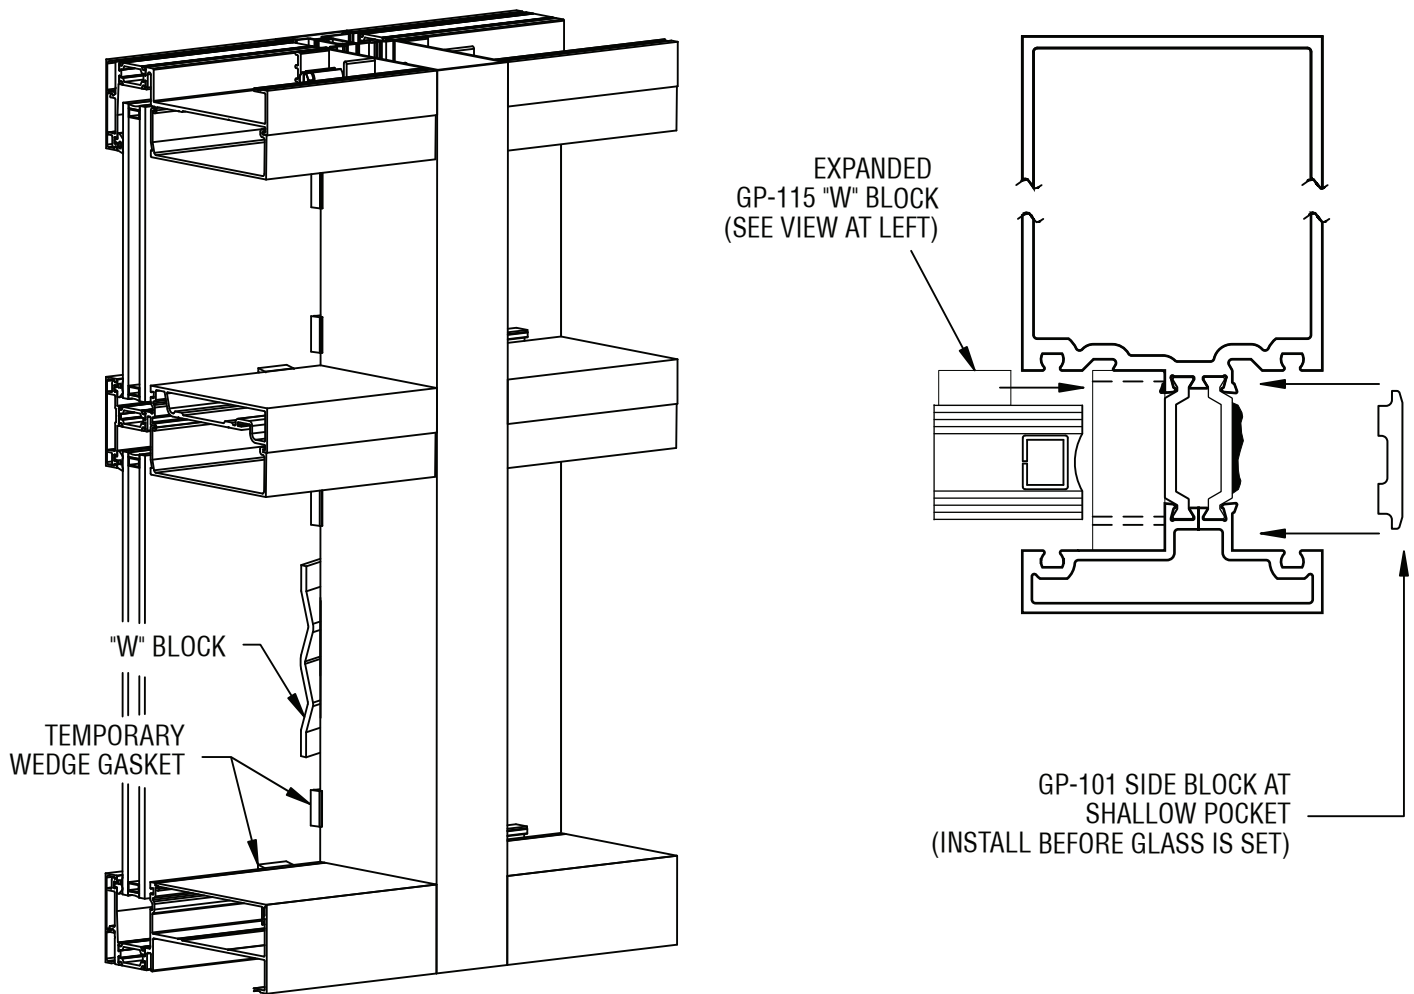

Figure 18
- 3.2 Position setting blocks at correct location (two per lite). Refer to approved shop drawings or deadload charts. Lubricating the top of the setting block will help insure proper setting of glass. If required, install GP-101 side block in shallow pocket of vertical before glass is installed. Hold GP-101 in place with silicone. **SEE FIGURE 18, page 22.** **Note: Consult glass manufacturer for correct setting block location & length for glass sizes in excess of 40 sq. ft. REFER TO STEP 3.10, PAGE 24 IF GLAZING SSG VERTICALS.**